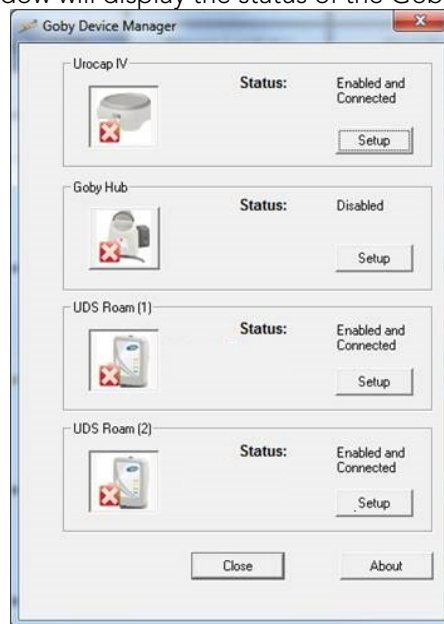

Figure 16: Goby Device Manager – Components Disconnected
3. The Goby™ Device Manager window will display the status of the Goby™ equipment (Figure 16).